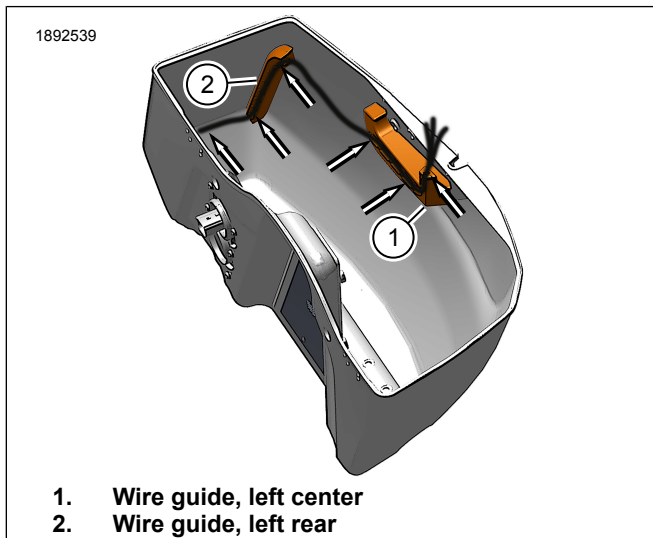

Figure 6. Internal Wire Harness Route
- c. See Figure 6. Install harness straight across rear of saddlebag, into rear wire guide (2) and forward into center wire guide (1) as shown.
- d. Subwoofer connector and speaker connectors will protrude out the top of the center guide (1) adequately to reach their connection points.